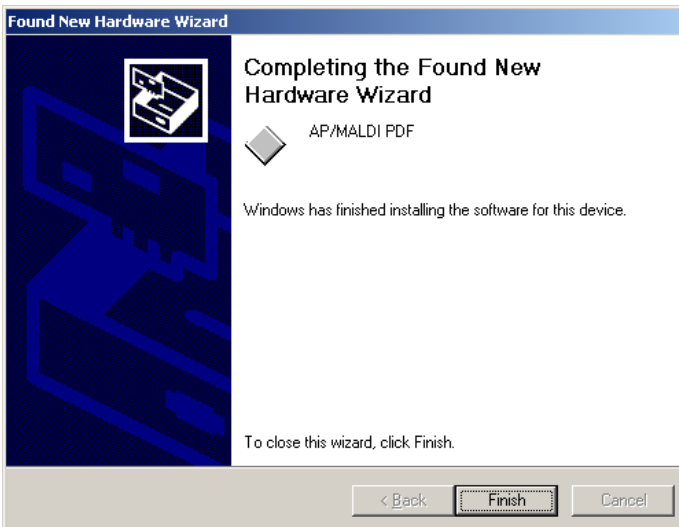

Figure 57 USB driver loaded successfully
- 9 After the driver has loaded correctly, a message will appear confirming that the driver has loaded correctly. See Figure 57.